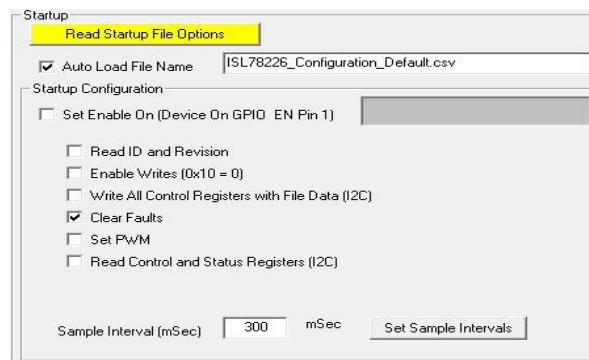

Figure 32. Startup Screen
- (1) Click **Read Startup File Options** (see Figure 32).